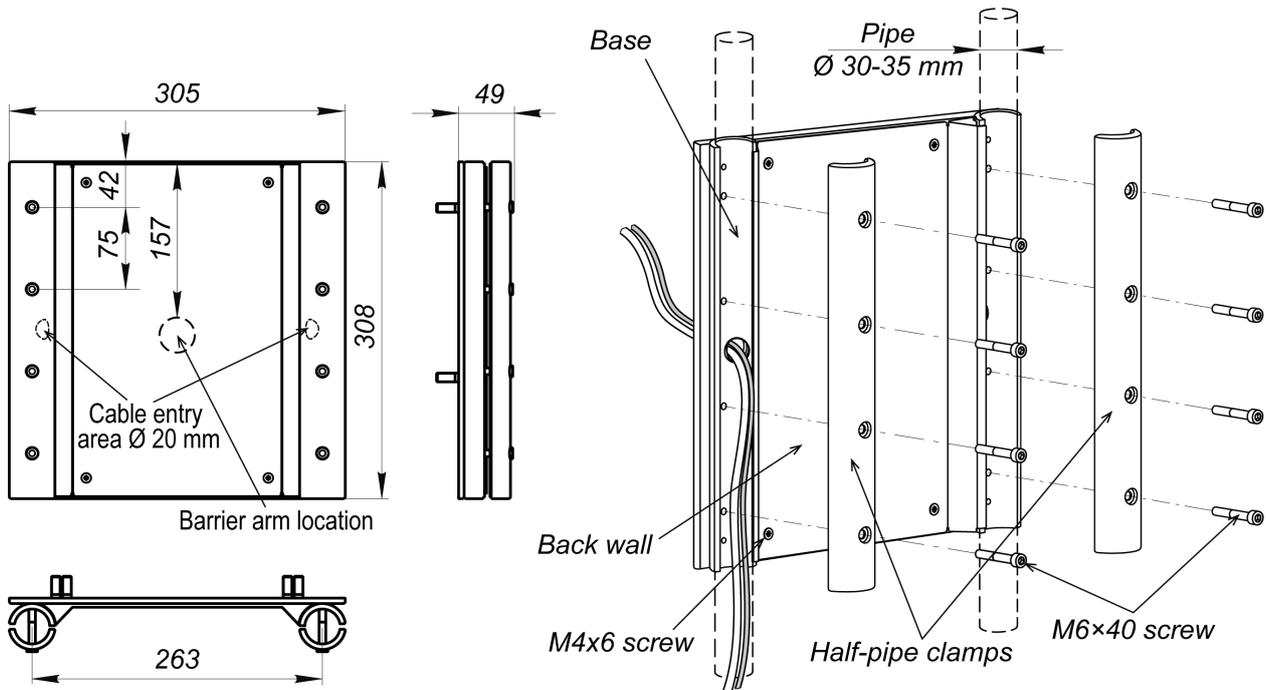

Figure 17. Dimensions and installation procedure for the MT10.1 mounting bracket
The turnstile connection layout is given in Fig. 17. The connector blocks location on the control (9) and interface (10) boards is given in Fig. 6 and 7. The cables used during installation and their maximum lengths are indicated in Sect. 8.3. The installation surface and passage area recommendations are given in Sect. 8.1. Follow this sequence of actions, when installing the turnstile:
4. Remove the housing (1) from the turnstile base:
- Unscrew the four fixing screws on the housing (7) using the SW3 Allen key. The screws are located on the lower surface of the turnstile base, the hub side.
- Separate the indication cable (8), that connects the LED indication unit (2) and the interface board (10).
8. Connect the RC-panel (WRC or ACS controller) cable to the **X2** connector block on the interface board (Fig. 17).
9. Install and connect optional equipment if necessary: intrusion detector and siren; *Fire Alarm* emergency unblocking device, remote indicators, etc. (Fig. 17).
10. Check serviceability and accuracy of all the electrical connections in accordance with the diagram in Fig. 17. Slide the interface board back into place and tighten the lock screws. Carefully lay and secure all connected cables on a holed horizontal shelf with the supplied cable ties.